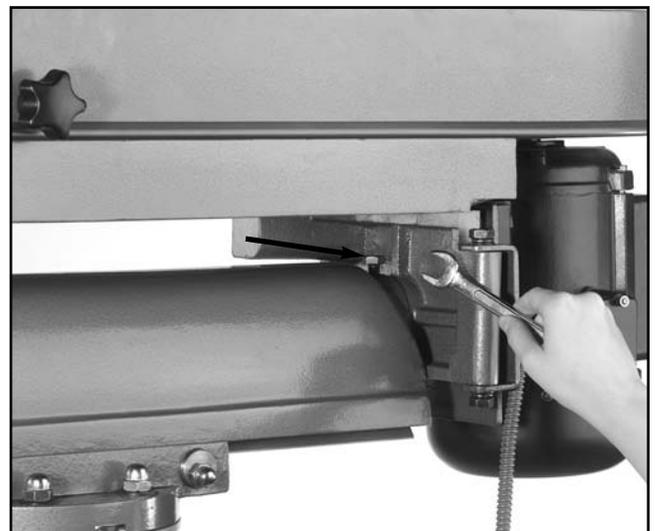

Figure 10. Loosen rear bolt before tilting head.
2. Loosen the setscrew near the motor (**Figure 10**) with the 4mm Allen® wrench supplied.